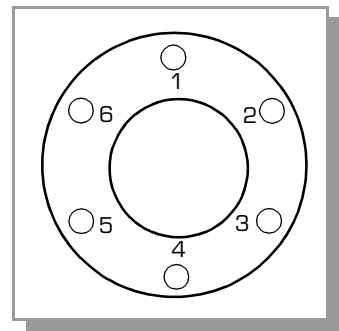

Figure 3-2
- After finger tightening all bolts, continue tightening about 1/8 turn in crisscross order, e.g., 1, 4, 2, 5, 3, 6, 4, 1, 5, 2, 6, 3, 1.... until the flanges are in contact. After contact, further tighten each bolt about 1/16 turn. See Figure 3-2 on page 3-2.